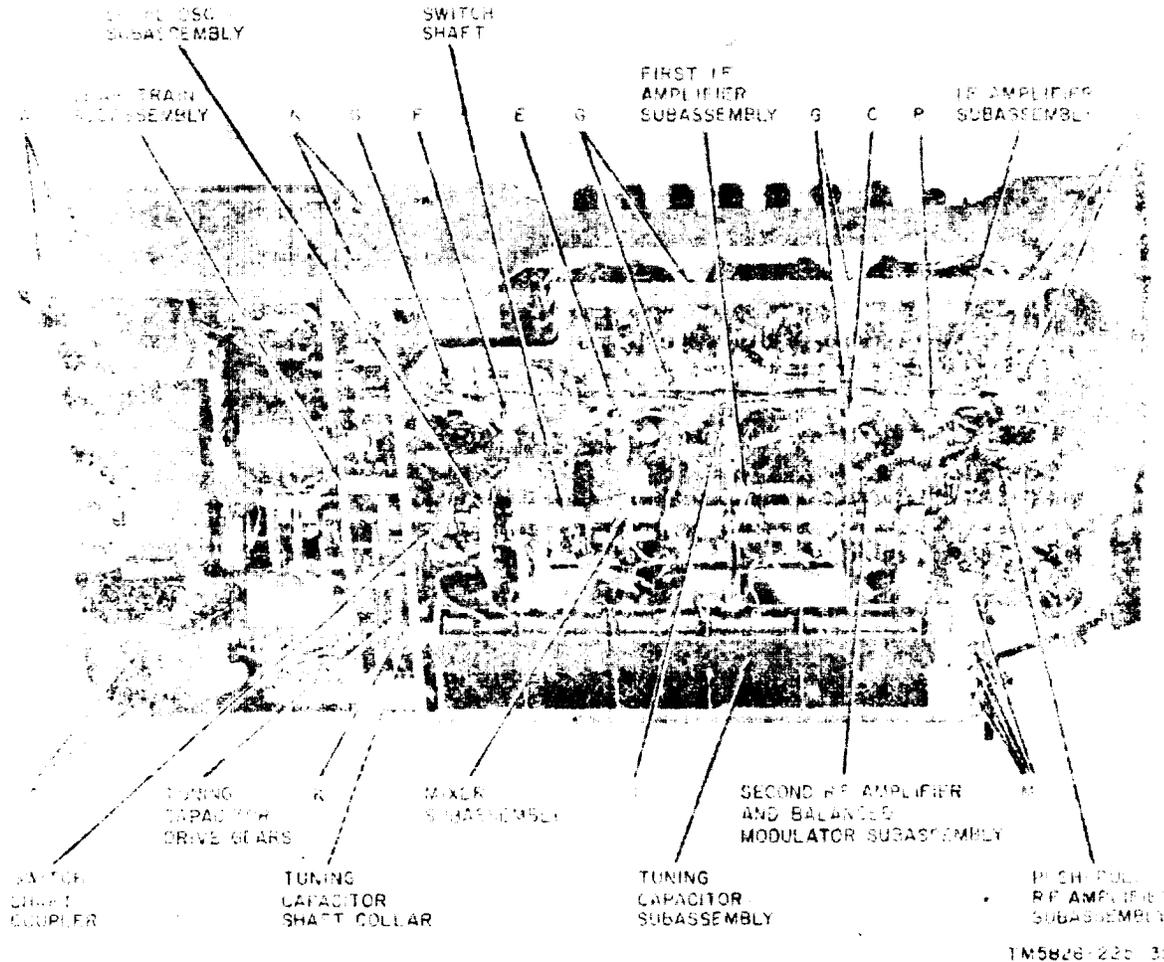
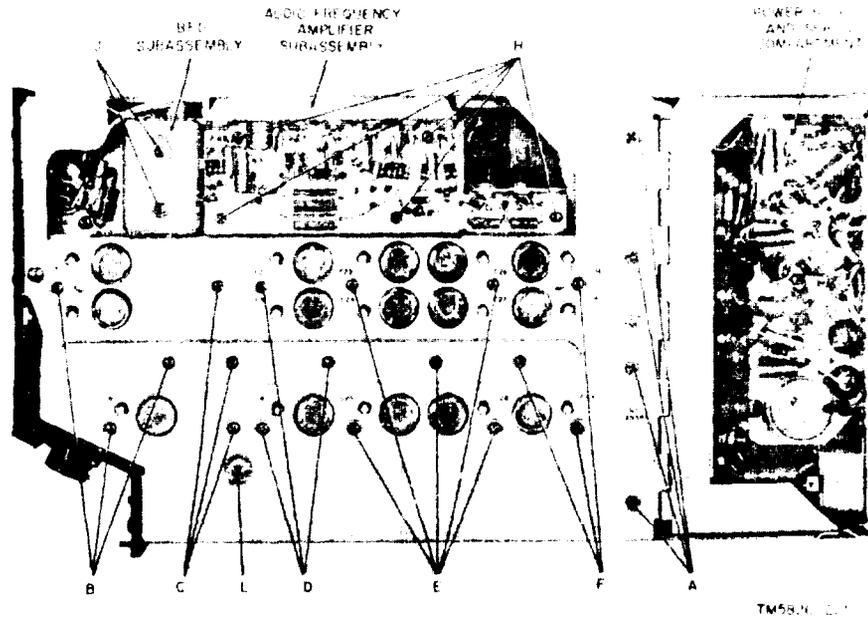

Figure 3-1. Receiver, left side view, dust cover removed.
Figure 3-2. Receiver, right side view, dust cover removed.
- (1) Remove switch shaft (c above).
- (2) Remove one screw and lockwasher (C, fig. 3-1) and three screws (C, fig. 3-2).
- (3) Pull out subassembly.
- (2) Remove one screw and lockwasher (D, fig. 3-1) and three screws (D, fig. 3-2).
- (2) Remove one screw and lockwasher (E, fig. 3-1) and five screws (E, fig. 3-2).
- (2) Remove one screw and lockwasher (F, fig. 3-1) and three screws (F, fig. 3-2).
- (1) **Remove seven screws (G, fig. 3-1).**
- (2) Pull out subassembly.
- (1) Remove five screws (H, fig. 3-2).
- (1) Loosen two screws (J, fig. 3-2).
- (2) Remove capscrew and lockwasher (K, fig. 3-1) which secures tuning capacitor subassembly to gear train subassembly.
- (3) Loosen two setscrews on tuning capacitor shaft collar (fig. 3-1) which is part of gear train subassembly.
- (4) Loosen lowest screw of four screws (A, fig. 3-2) approximately three turns.
- (5) Remove screw and lockwasher (L, fig. 3-2).
- (6) Slide tuning capacitor subassembly towards front of receiver. Be careful that pair of tuning capacitor drive gears (fig. 3-1) in gear train subassembly do not bind on shaft of tuning capacitor subassembly. Pair of 84-tooth spur gears and tuning capacitor shaft collar may fall free.
- (7) Pull tuning capacitor subassembly out. It may be necessary to remove four screws (M, fig. 3-1) and press down on bottom of receiver chassis to allow removal of subassembly.
- (1) Remove power supply and servo compartment (b above).
- (2) Remove switch shaft (c above).
- (3) Perform procedures in l (1), (2), and (3) above.
- (4) Remove two screw's (N, fig. 3-1) on top of receiver chassis.
- (5) Remove two screws on bottom of receiver chassis which are directly opposite from two screw in (4) above.
- (6) Slide gear train subassembly toward rear of receiver until subassembly is free.
- (1) Slide the gear train subassembly (fig. 3-1) into rear of receiver chassis.
- (2) Attach two screws (N, fig. 3-1, lock) on top of receiver chassis.
- (3) Attach two screws (lock) on bottom of receiver chassis which are directly opposite from two screws in (2) above.
- (1) Replace tuning capacitor subassembly (fig. 3-1) in receiver chassis. Retighten four screws (M) if they were loosened during removal of tuning capacitor subassembly.
- (2) Loosen two setscrews on tuning capacitor shaft collar (fig. 3-1) in gear train subassembly. This collar is shown as item 69 in figure 5-16.
- (3) Loosen lowest of four screws (A, fig. 3-2) approximately three turns if power supply and servo compartment has been replaced.
- (4) Slide tuning capacitor subassembly toward gear train assembly. While doing so, hold assembly of tuning capacitor shaft collar and tuning capacitor drive gears (fig. 3-1) so that shaft of tuning capacitor subassembly fits into hub of one of the tuning capacitor drive gears.
- (5) Replace capscrew and lockwasher (K) that secures tuning capacitor subassembly to gear train subassembly.